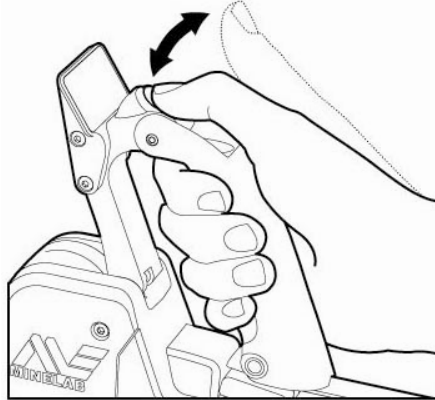

Figure 5: Audio Reset
- Once the threshold tone has increased in volume, press and immediately release the green audio reset button. (Figure 5)